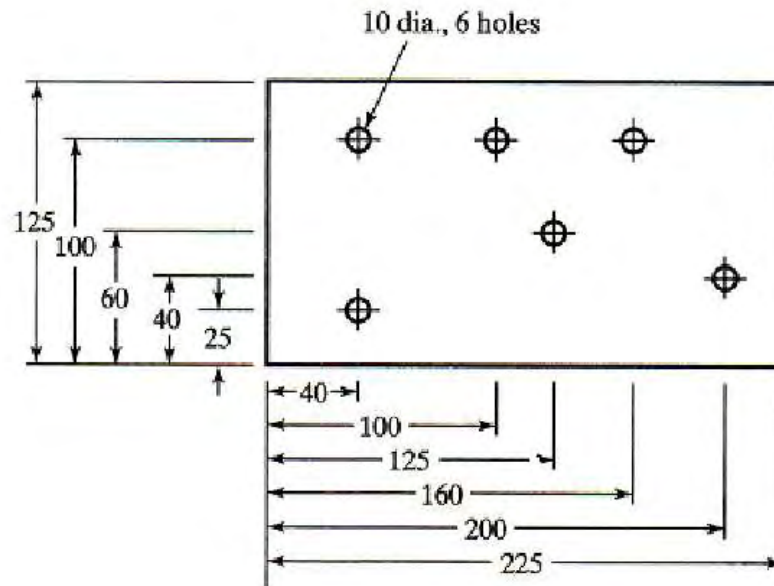

Figure 4
4. Write the part program to drill the holes in the part shown in the figure 4. The part is 12.0 mm thick. Cutting speed = 100 m/min and feed = 0.06 mm/rev. Use the lower left corner of the part as the origin in the x-y axis system. Write the NC part program. Use absolute positioning. All dimensions are given in mm. [16]